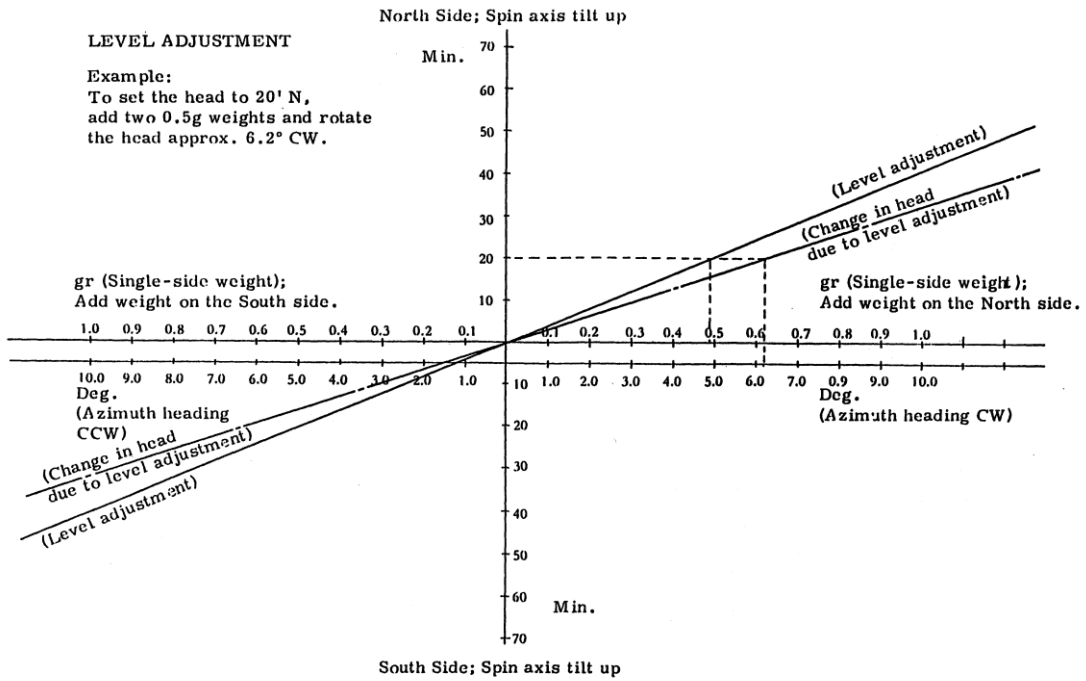

Figure 6-1 Level adjustment
- a. To adjust the heading indication, add an equal amount of weights to the left and right on the south or north side on the liquid ballistic frame. When weights are added to the south side, the heading indication increases (westerly error). When weights are added to the north side, the heading indication decreases (easterly error). For the corrective amounts, see Figure 6-1.